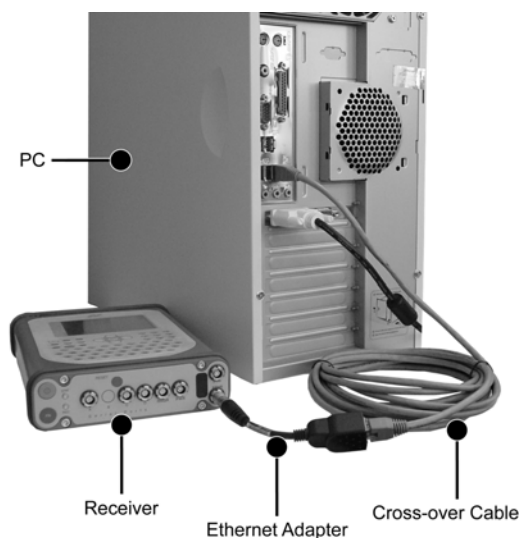

Figure 1-7. Direct Ethernet Connection – Hardware Setup
8. Connect the Ethernet cables (Figure 1-7 on page 1-16):